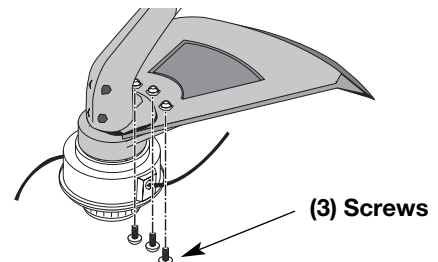

Fig. 5
3. Install a screw into the hole from the bottom of the cutting attachment shield. Screw it into the nut installed in Step 2 until started (Fig. 5). Do not tighten.